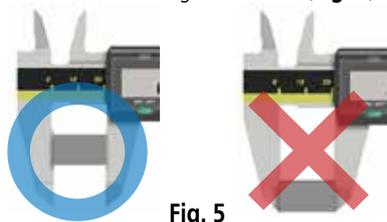

Fig. 5
1. Make sure to apply constant force during measurement, and measure an object as close as possible to the root of the jaws. It is better to avoid measurement with the tip of the jaws. (**Fig. 5**)
2. Make sure to apply constant force during measurement, and measure an object as close as possible to the root of the jaws. It is better to avoid measurement with the tip of the jaws. (**Fig. 5**)